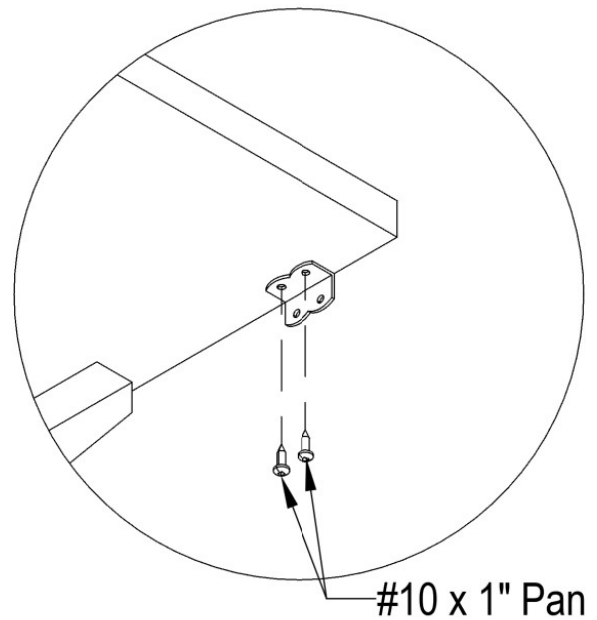

Figure 2
2. Screw the 90° Bracket with the Tabletop using 2 - #10 x 1" Pan Head Screws as shown in Figure 2.